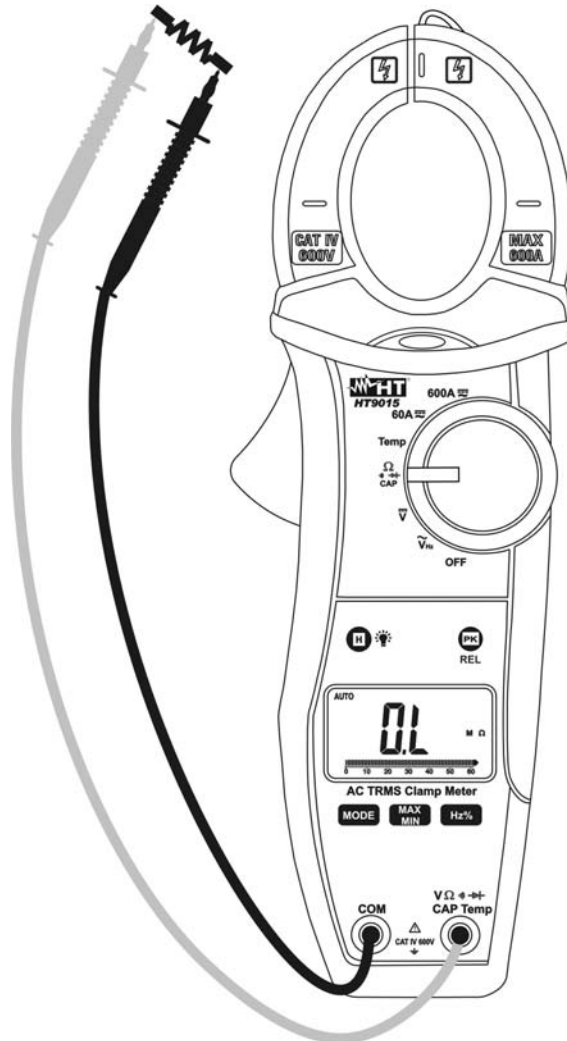

Fig. 9: Taking Resistance measurement
2. Insert the red test lead plug into **V Ω Hz % Temp** jack and the black test lead plug into **COM** jack (Fig. 9)